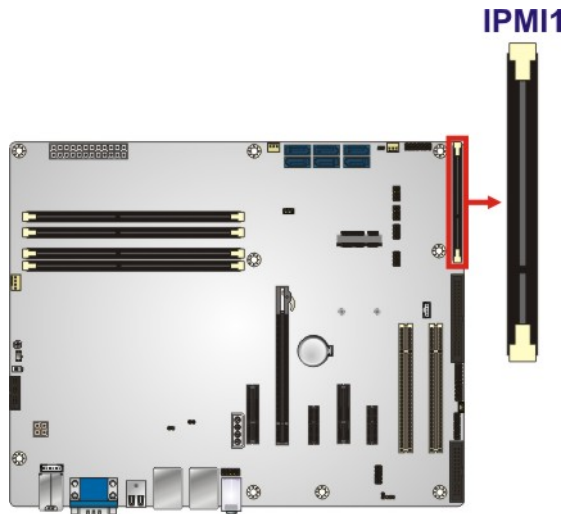

Figure 3-16: iRIS Module Slot Location
- CN Location:** See **Figure 3-16**